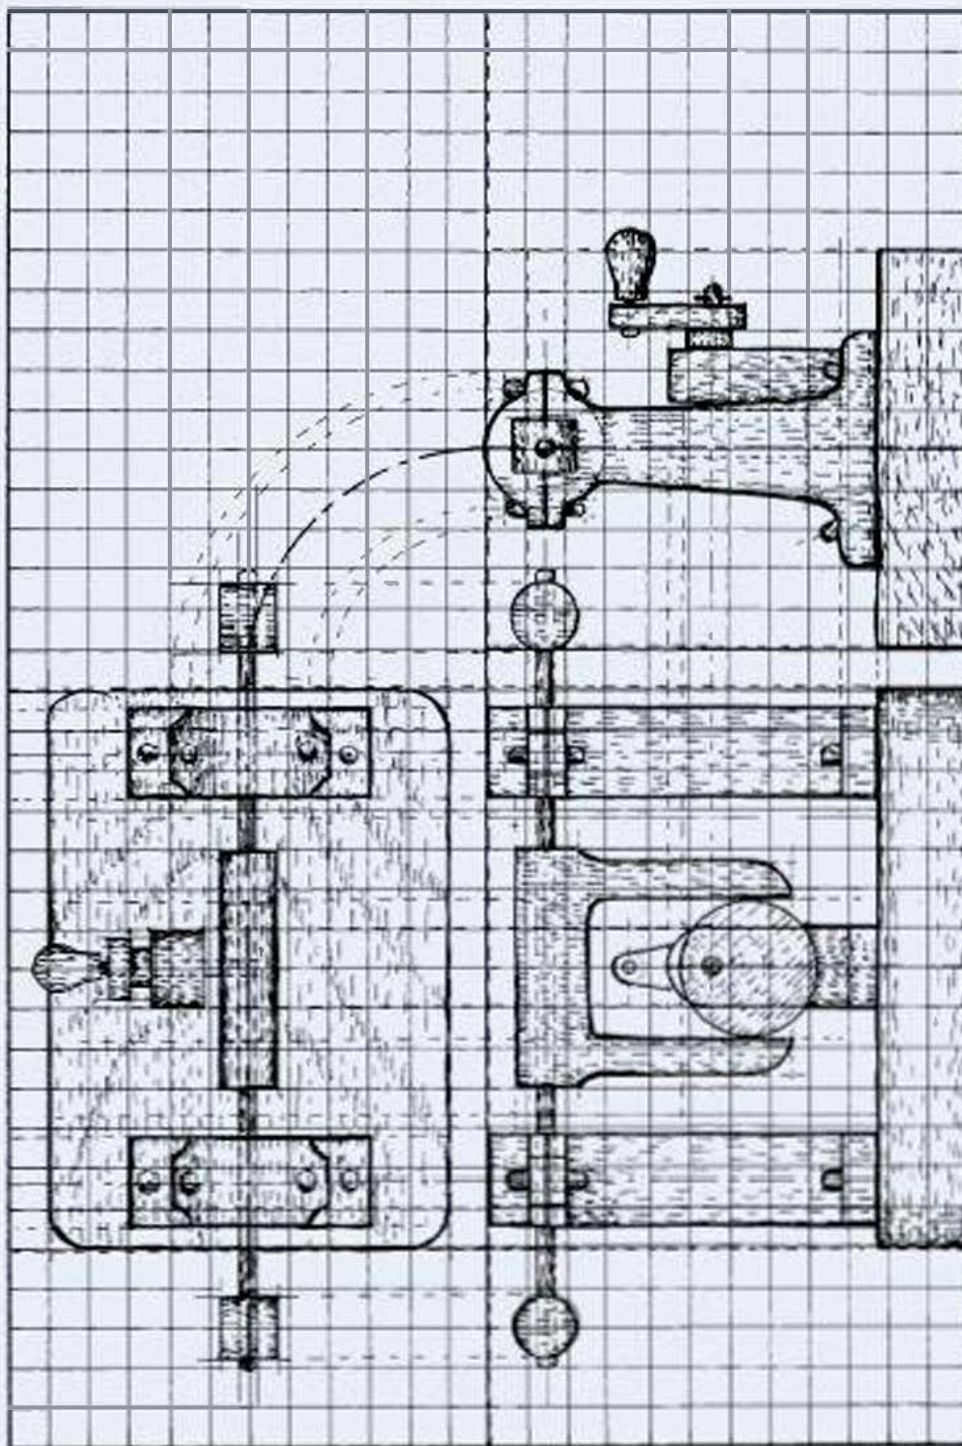
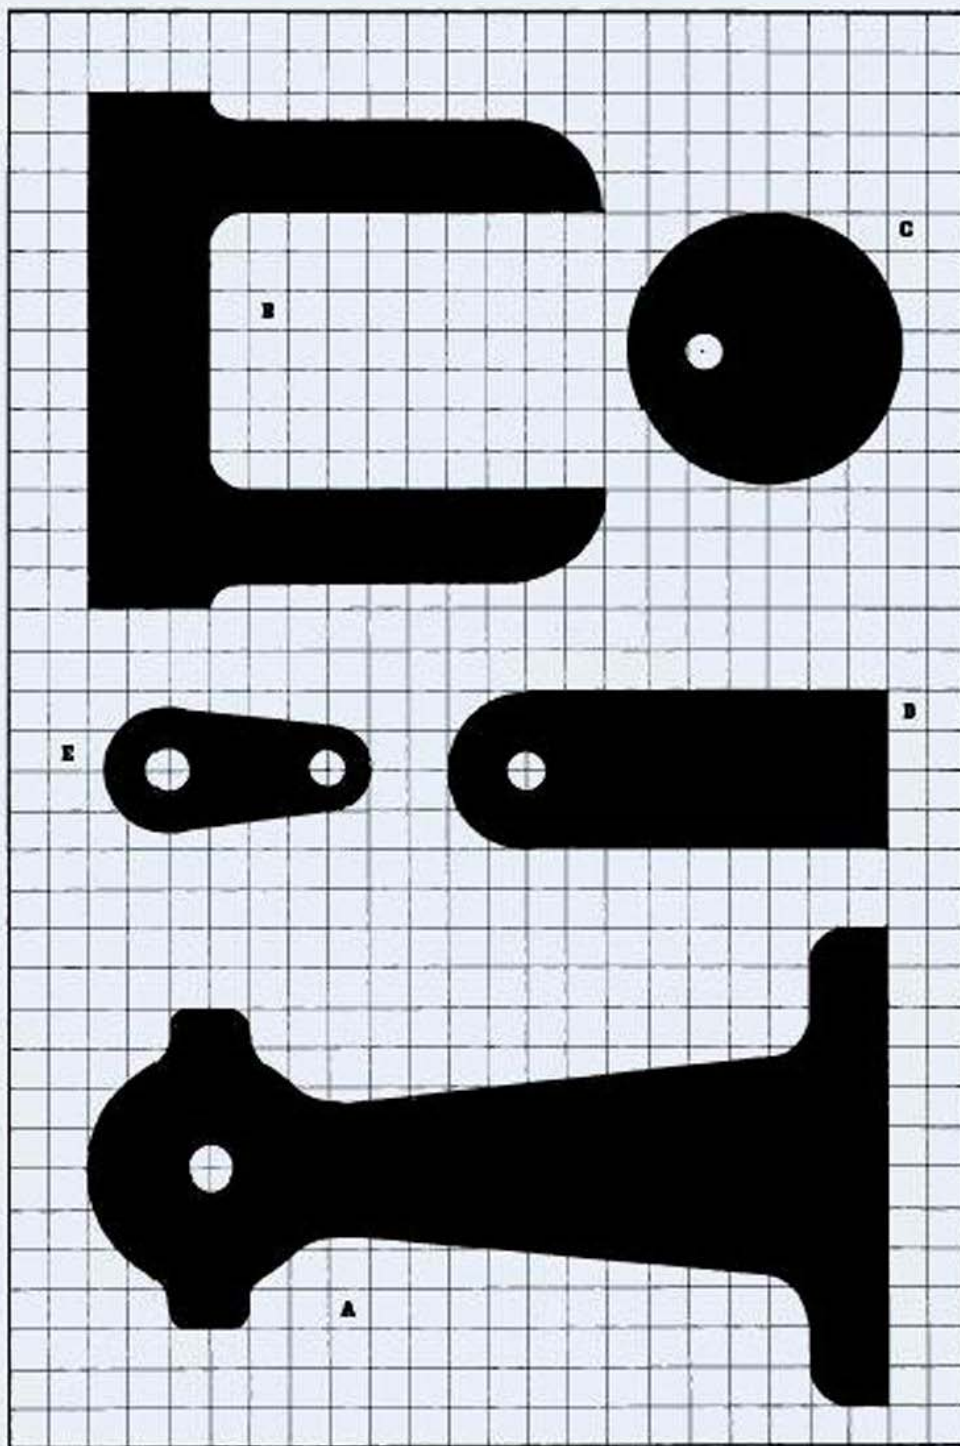

FIGURE 3-1A
FIGURE 3-1B
Have a look at the project picture (right), the working drawing (Fig 3-1A) and the templates (Fig 3-1B), and note that the disk cam is pin fixed to a shaft in such a way that its movement is off-center. Consider carefully how, when the contained off-center disk cam turns, the fork has no option but to track and follow the cam profile.
- 2 Set the compasses/dividers to 1/2" radius, and scribe out the 1"-diameter circles that make up the design of the corner curves (Fig 3-1A). Use the tools of your choice to cut the wood to shape and size.
- 1** Have a look at the working drawing (Fig 3-1A) and templates (Fig 3-1B), and see that the controls, meaning the parts you turn, are made up of a fixed post, crank, crank handle, crank handle pin, or pivot, washer to distance the crank from the post, disk cam and pivot rod.
1 Take a $\frac{1}{4}$ "-thick piece of mahogany offcut and use a pencil, ruler and pair of compasses to draw the shape of the crank and the little washer spacer. Plan on the crank being about 1" between centers (Fig 3-1B).
1 If you have a look at the working drawing (Fig 3-1A) and templates (Fig 3-1B), you will see that the forked follower, or frame, is cut from $\frac{3}{4}$ "-thick wood, with the grain running from top to bottom and the inside fork width being the same as the diameter of the disk cam.